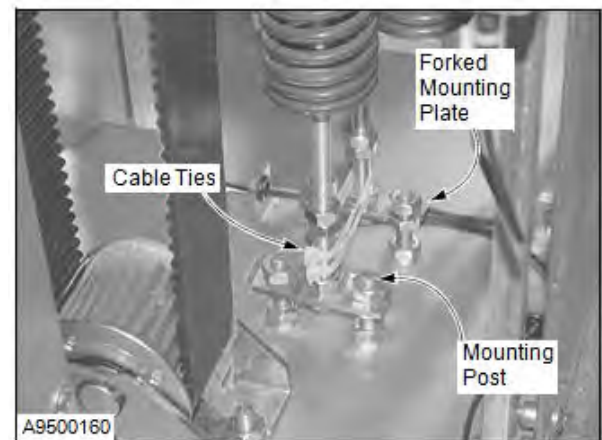

Figure 65
8. Attach the spring pack to the mounting posts on the base plate. To retain the preload setting, tighten only the lower nuts against the bottom of the mounting plate — do not adjust the upper pair of nuts. (See Figure 65.)